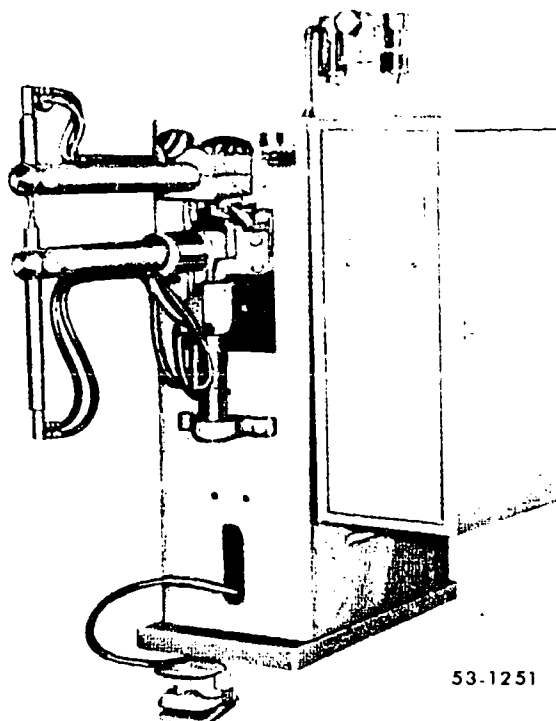

Figure 4-1. Spot welder.
**Spot Welder.** The spot welder, illustrated in figure 4-1 is the type found in many metal shops. The upper arm is actuated by air pressure and is lowered and raised in a vertical arc. The spot welder illustrated used 90 psi of air pressure and is used primarily to weld light gage metal. This spot welder must have a source of electricity, air pressure and water. The spot welding machine consists of an outside case, transformer, control box, foot switch, and electrode holders (arms).